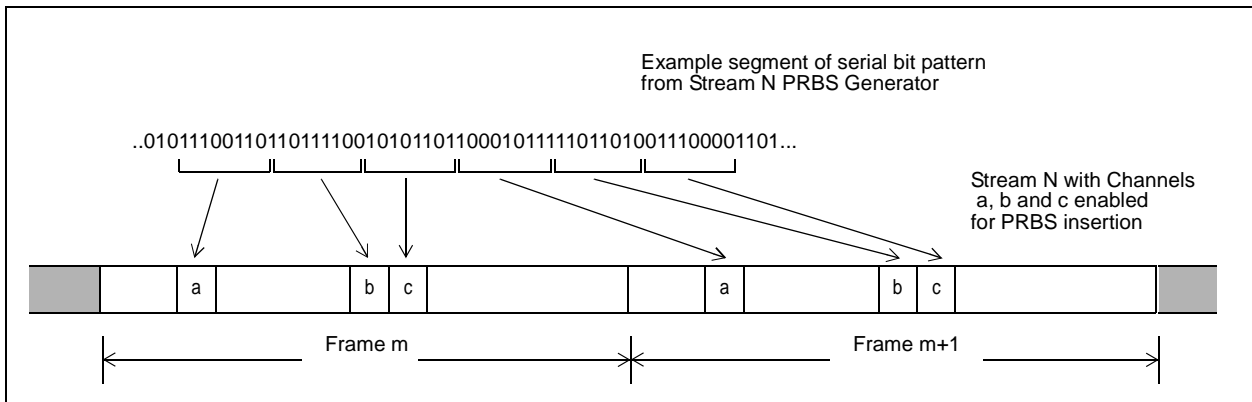

Figure 9 - Example PRBS Timeslot Insertion
The PRBS bit pattern is sequentially loaded into the output timeslots as shown in the following example, see Figure 9.
2. The arrival order of timeslots at the PRBS detector must be the same as the order in which timeslots were transmitted by the PRBS generator. For example, in Figure 9 above, the timeslot order a,b,c must be maintained through the external path from source TDM output stream to destination TDM input stream.